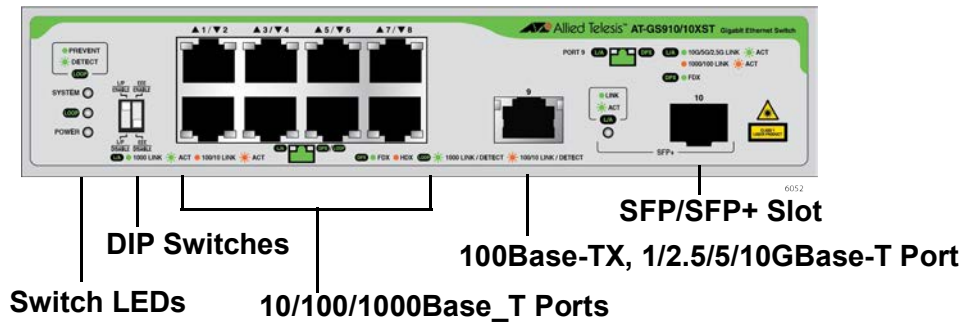
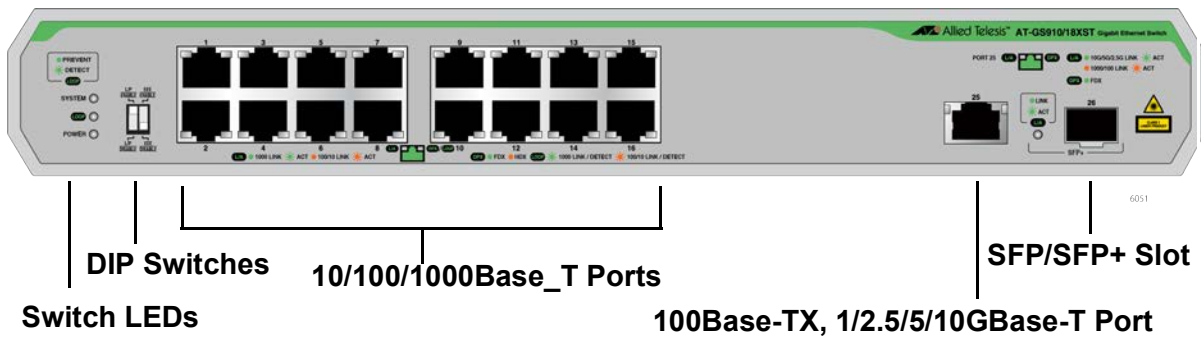
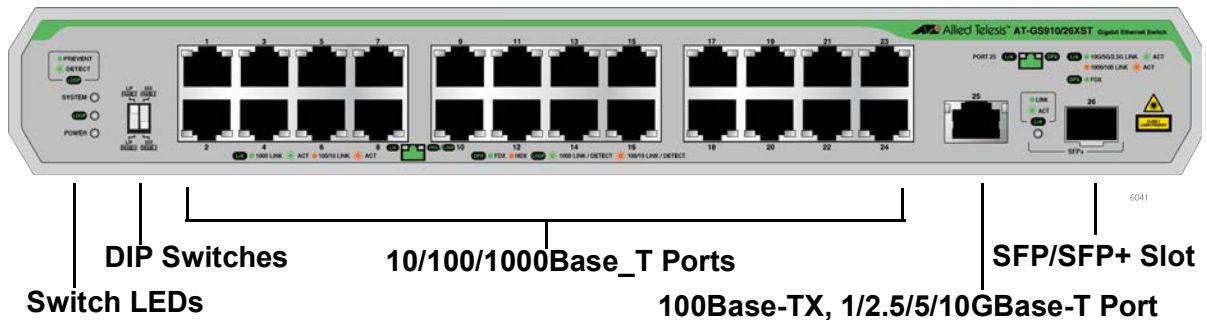

Figure 2. GS910/10XST Front Panel
Figure 3. GS910/18XST Front Panel
Figure 4. GS910/26XST Front Panel
**Front Panels** The components of the front panels are shown in Figure 2, Figure 3, and Figure 4.